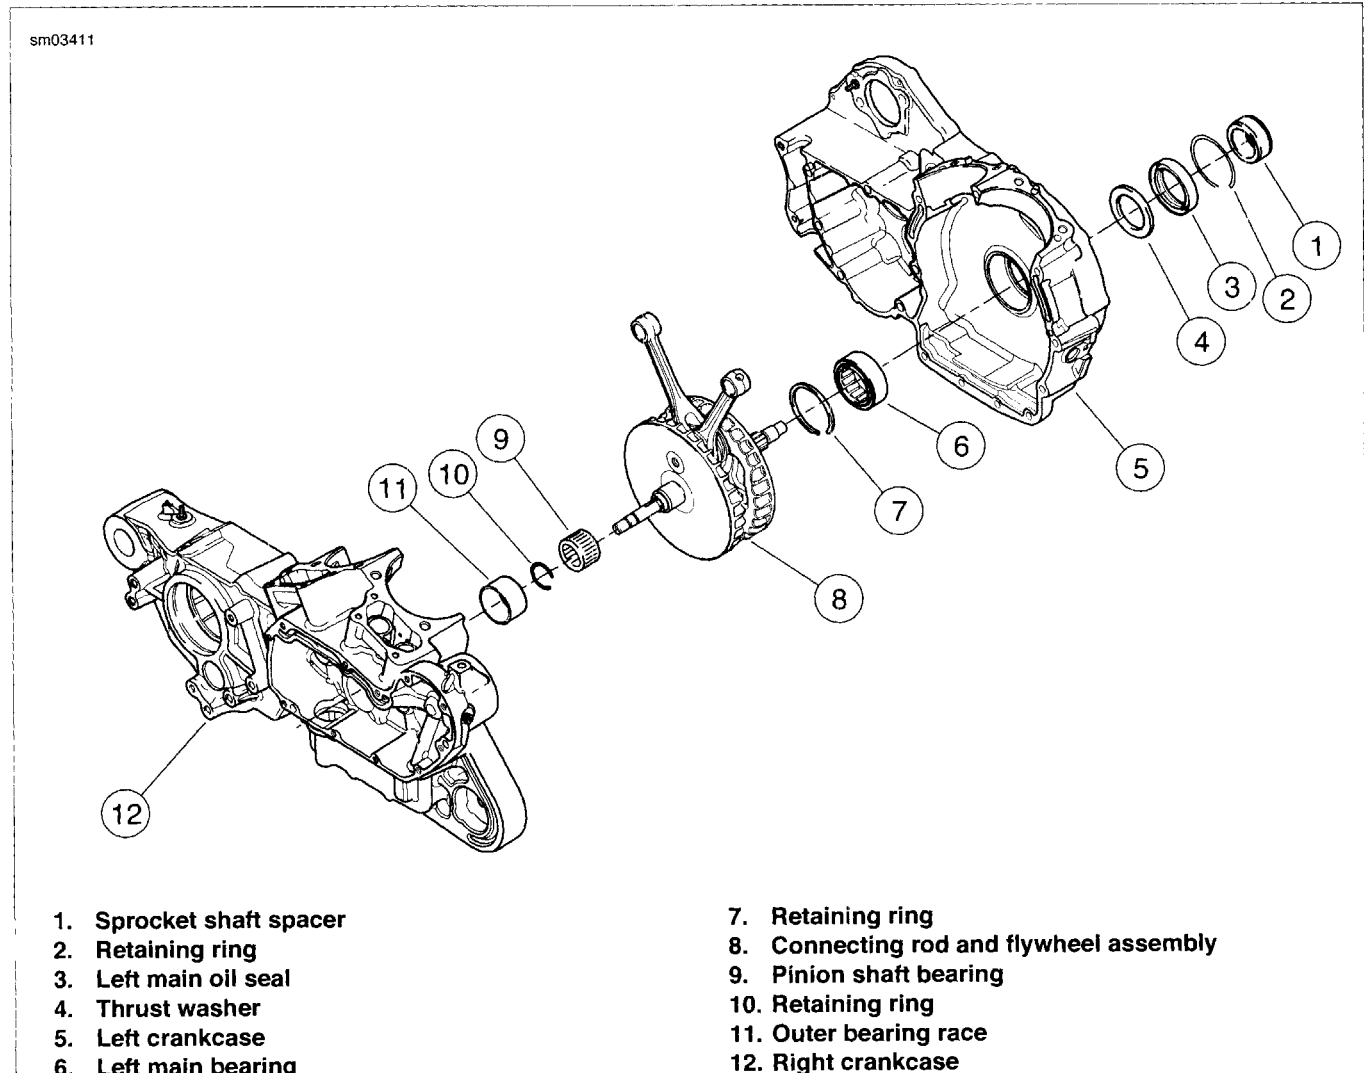

Figure 3-151. Crankcase and Flywheel Assembly (typical; XL model shown)
See Figure 3-151. If it is necessary to remove either the pinion shaft bearing (9) or left main bearing (6), proceed as follows:
3. See Figure 3-153. See Figure 3-151. Remove outer left main bearing retaining ring (2).
4. See Figure 3-151. Remove left main oil seal (3) from left crankcase using Snap-On Tool (Part No. CJ 114, Body Dent Puller).
5. Remove thrust washer (4) next to left main bearing (6).
6. See Figure 3-154 and Figure 3-151. Remove left main bearing retaining ring (7) from the inside of the left crankcase (5).
See Figure 3-151. The outer race (11) is a pressed-in bushing in the right crankcase. The inner race is pressed on the pinion shaft.